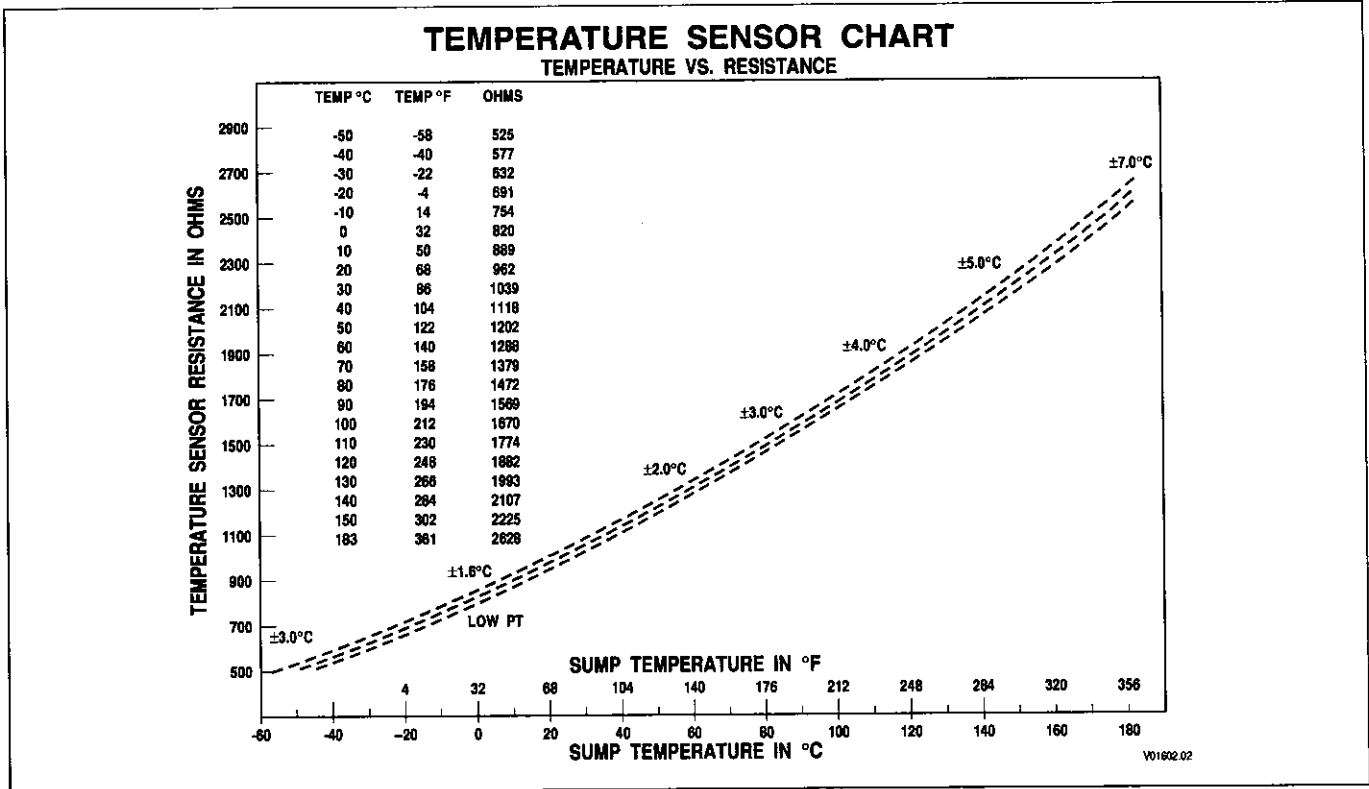

Figure 6-21. Temperature Sensor Chart (Sensors Prior to TID 2)
If the validity of the hot fluid diagnosis is in question, temperature can be checked by using a temperature gauge at the retarder-out port or by reading retarder temperature with the Pro-Link® diagnostic tool. Another method of checking retarder temperature is to remove the "T" connector at the ECU and measure resistance (Ohms) between terminals T28 and T25. Compare the resistance value to the value in Figure 6-21 to see if the result is within the expected operating range. For TID2 thermistors, see Appendix Q for resistance versus temperature table.
1. Check the retarder temperature or engine coolant temperature with a DDR. If a DDR is not available, use the shift selector display to determine if the code is active (cycle the ignition on and off at least once since the code was logged to clear the code's active indicator). If a condition that is unreasonable for the current conditions exists, go to Step (3).
2. If Step (1) reveals that the extreme temperature indication is no longer present, the temperature limit could have been reached due to operational or ambient temperature extremes. Proceed cautiously as it is unlikely there is a sensor hardware fault.
3. Remove the connector at the ECU. Measure resistance between harness terminals T25 and T28 or between harness terminals V9 and V24. Compare resistance value to chart (see Figure 6-21) to see if reading is within expected operating range.